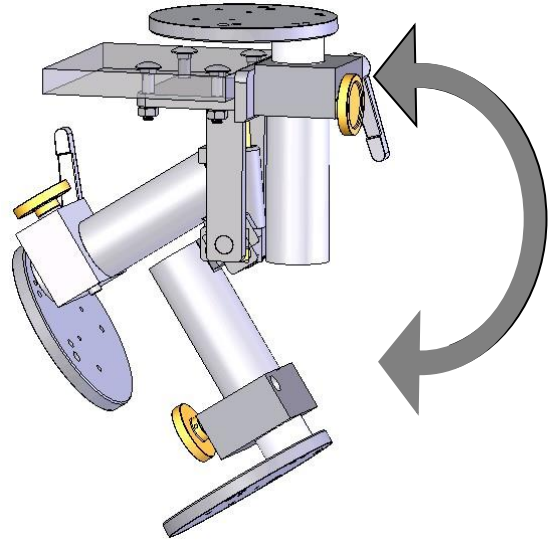

Fig. 3
Before you can use the tipper, fasten the vice to the circular base of the tipper with appropriate bolts and check whether the tipper is properly fastened to the workbench top. Before tipping the vice, loosen the positioning crank (2), push in the telescopic extender and secure it in the position by turning the positioning crank (2) in the opposite direction. After loosening the securing thumbwheel (6) on the clamp (4), you can, by applying a force in the indicated direction (see Fig. 3) tilt the vice to underneath the workbench top.